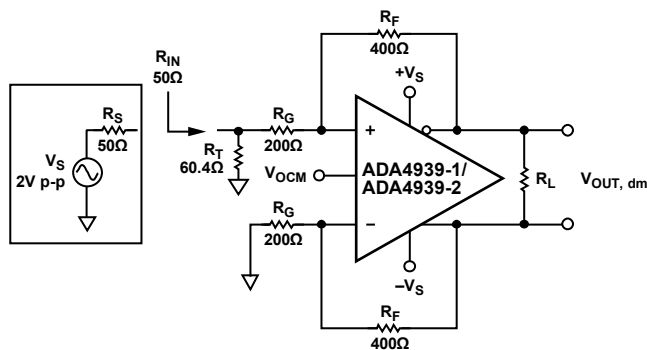

Figure 47. Adding Termination Resistor R_T
- Figure 47 shows that the effective R_G in the upper feedback loop is now greater than the R_G in the lower loop due to the addition of the termination resistors. To compensate for the imbalance of the gain resistors, a correction resistor (R_{TS}) is added in series with R_G in the lower loop. R_{TS} is equal to the Thevenin equivalent of the source resistance R_S and the termination resistance R_T and is equal to $R_S || R_T$.